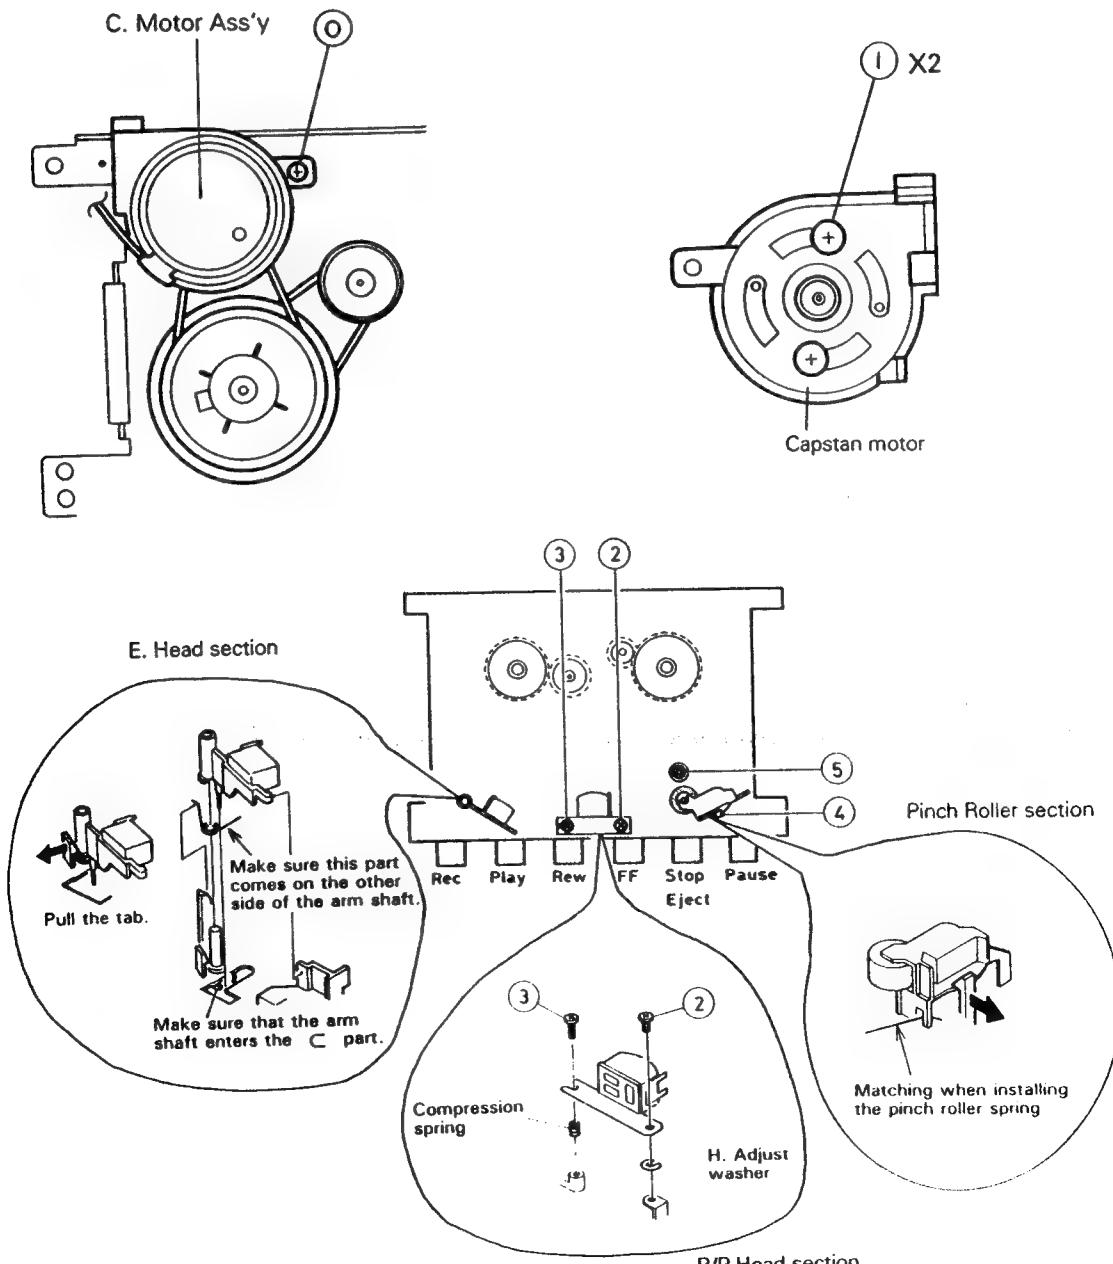

Fig. 3-18
■ Capstan motor ass'y (See Fig. 3-18)
- 1) Remove the one screw ① retaining the motor ass'y.
- 2) Remove the two screws ② retaining the capstan motor ass'y.
■ R/P head section (See Fig. 3-18)
- 1) Remove the record/playback head's mounting screw ② and loosen screw ③.
■ E head section (See Fig. 3-18)